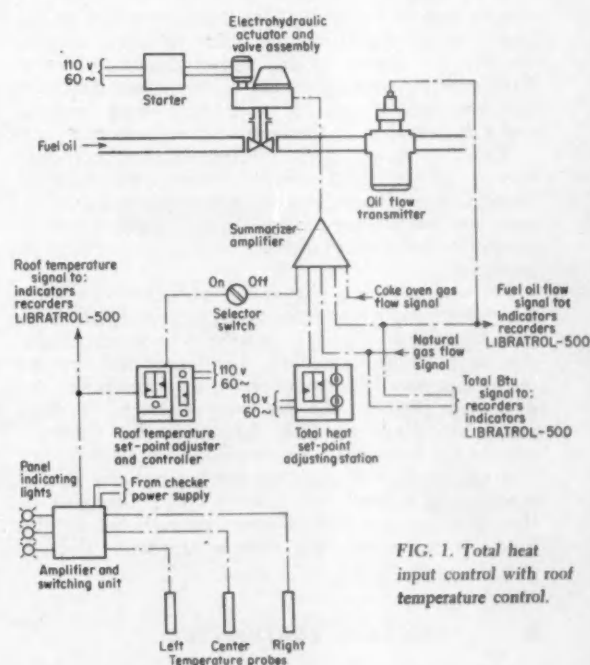

FIG. 1. Total heat input control with roof temperature control.
**Total Heat Input and Roof Temperature Control—**(Figure 1) Before roof temperature reaches its allowed maximum, the manually set heat input control limits total furnace heat input to an amount that can be efficiently absorbed by the charge and checkers. This reduces smoke stack losses to a minimum. When roof temperature reaches maximum, the roof temperature control generates a signal which bucks other summarizer amplifier inputs and automatically reduces manual heat input so that roof temperature is maintained within allowed limits. The control continually measures three roof temperature points and the computer (described later) determines the point with highest temperature and switches control to this point.